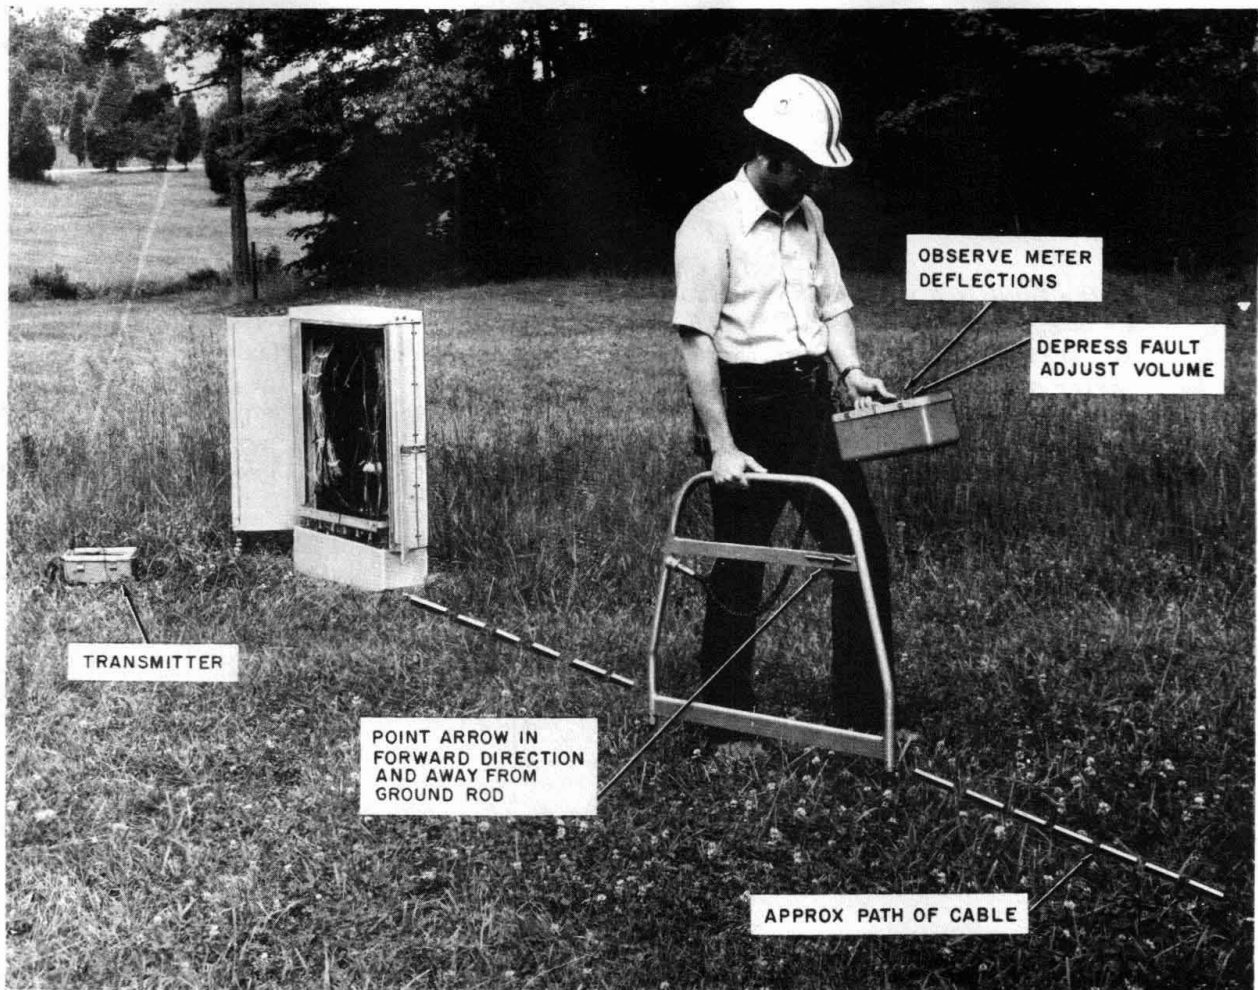

Fig. 11—Locating Sheath Fault
5.16 An employee locating a sheath fault is shown in Fig. 11.